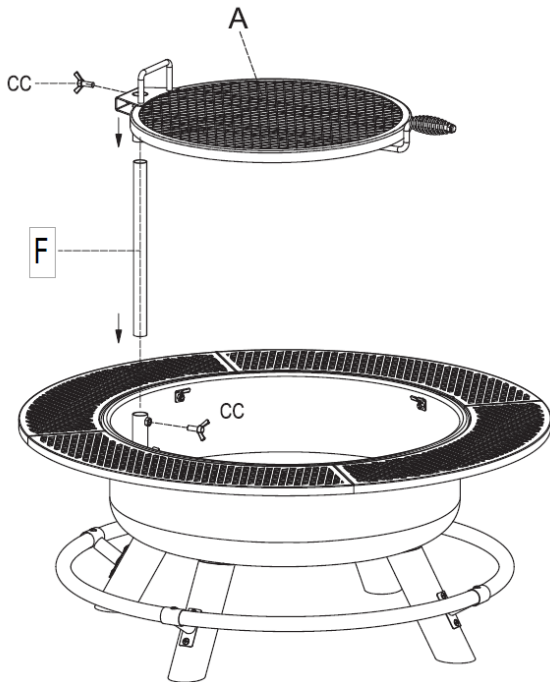

Fig.6
Assemble the Grill Handle(B) onto the Grill(A) with 2pcs M6x15 screw (aa). See Fig.6
STEP 6. Place the Support Post(F) into the holder on the interior wall of the fire bowl. Secure it with a M8 Wing Bolt(cc). Attach the Grill(A) onto the post. Adjust the cook grate to the desired height. Then secure it with another M8 Wing Bolt(cc). See Fig.6